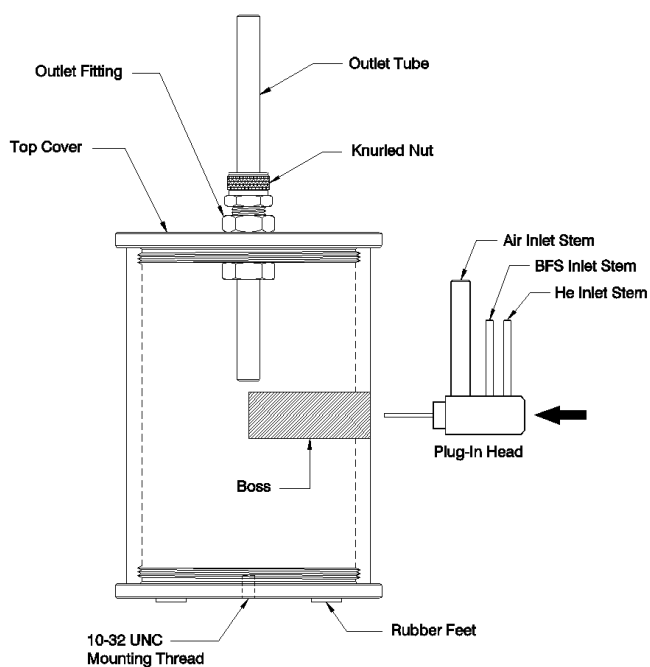

Figure 2 — Mini-Vortex Filter and Plug-In Head assembly.
The Plug-In Head consists of two stainless steel hypodermic tubes, one inside the other, mounted in a cantilever fashion to a cylindrical manifold body (Figure 2). Helium passes through the inner tube, and BFS passes through the annulus between the inner and outer tubes, forming helium-filled bubbles at the tip. A larger, concentric air jet then continuously blows the bubbles off the end of the outer tube as they form.
6. Set the height of each Mini-Vortex Filter's stainless steel outlet tube by loosening the knurled nut on the filter's top cover. For regular use, position the bottom of the outlet tube halfway down into the filter, then retighten the knurled nut finger-tight. See Figure 2.